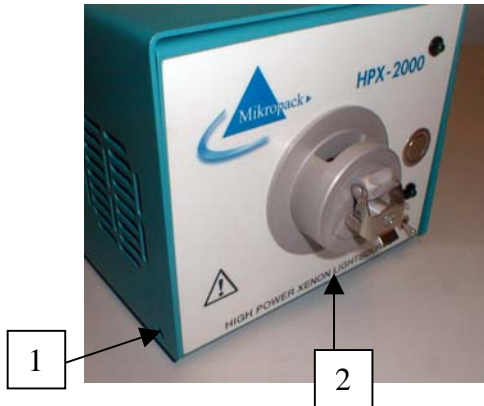
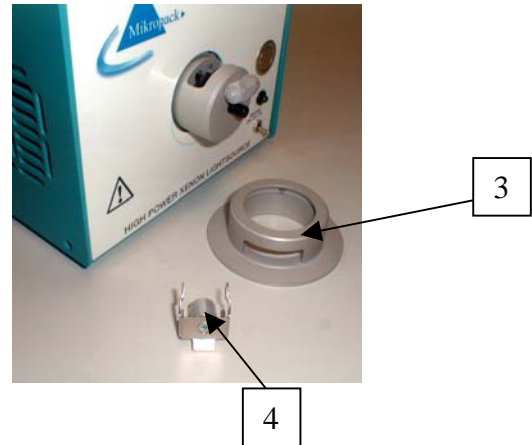

Figure 1
Figure 2
3. Rotate the cap (Figure 2, #3) until the round hole is at the bottom and a screw (Figure 1, #2) becomes visible.
5. Remove the cap (Figure 2, #3) and the beam cover (Figure 2, #4) from the HPX-2000.
6. Remove the four recessed screws (Figure 1, #1), both front and back on both sides of the HPX-2000.
10. Close the housing and screw the 4 screws (Figure 1, #1) into the sides of the housing.
11. Replace the cap (Figure 2, #3) and the beam-cover (Figure 2, #4).